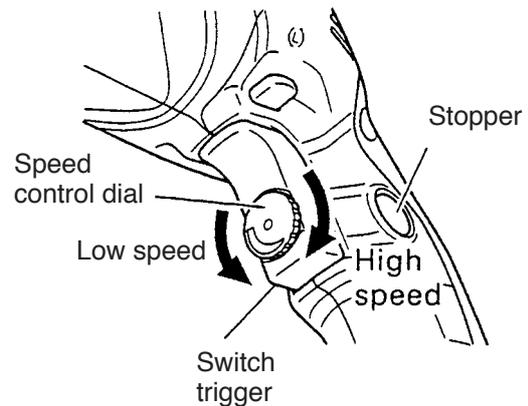

Fig. 3
- The desired rotation speed can be preselected with the speed control dial. Turn the speed control dial clockwise for higher speed and counterclockwise for lower speed. (Fig. 3)